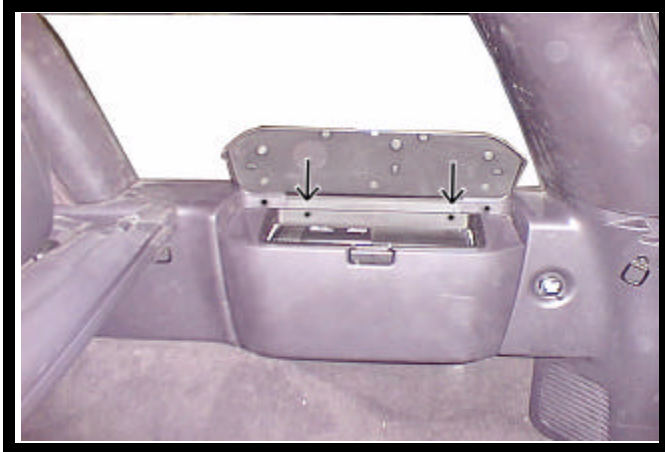

FIGURE 1
1. Locate the O.E.M. CD changer housing mounted to the rear passenger side of vehicle. Remove and discard (4) four screws. Remove and discard housing by moving it upward and outward. See Figure 1.